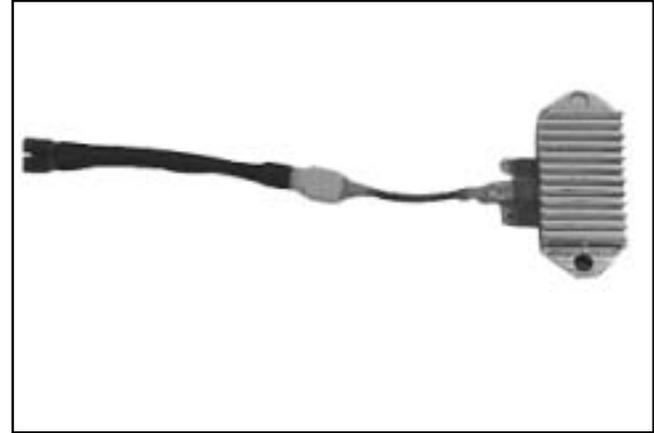

Figure 8-24.
1. Connect the single lead adapter in between the B+ (center) terminal of rectifier-regulator being tested and the squared single end of the tandem adapter lead. See Figure 8-24.